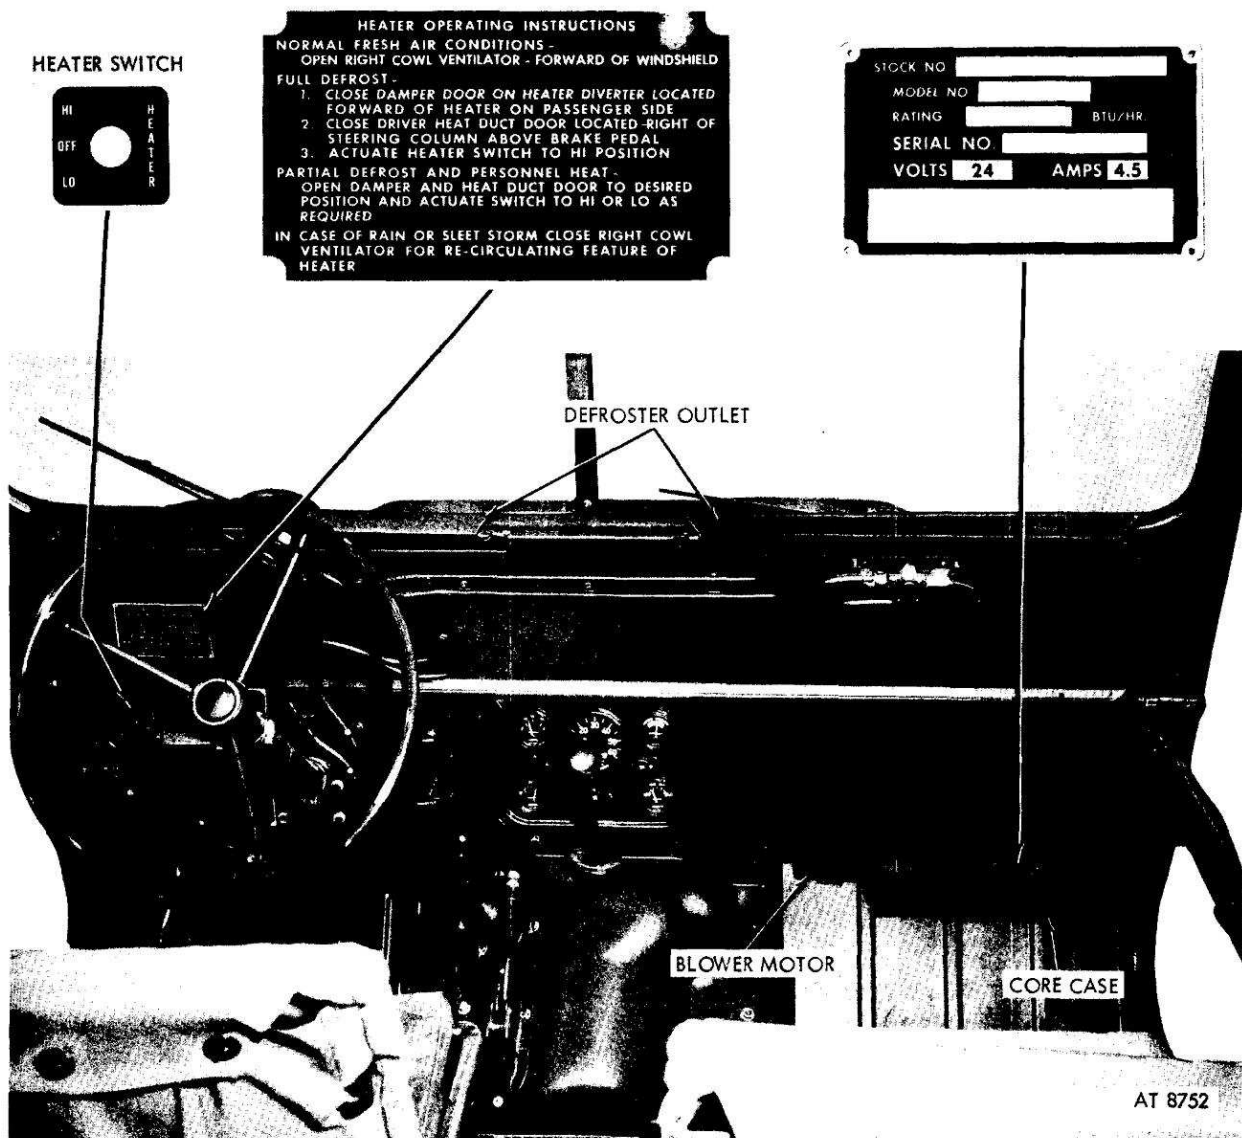

Figure 4-17. Caution and instruction plates for (-25° F) hot water heater.
f. Name, Caution, and Instruction Plates. Location and details of the plates are shown in figure 4-17.